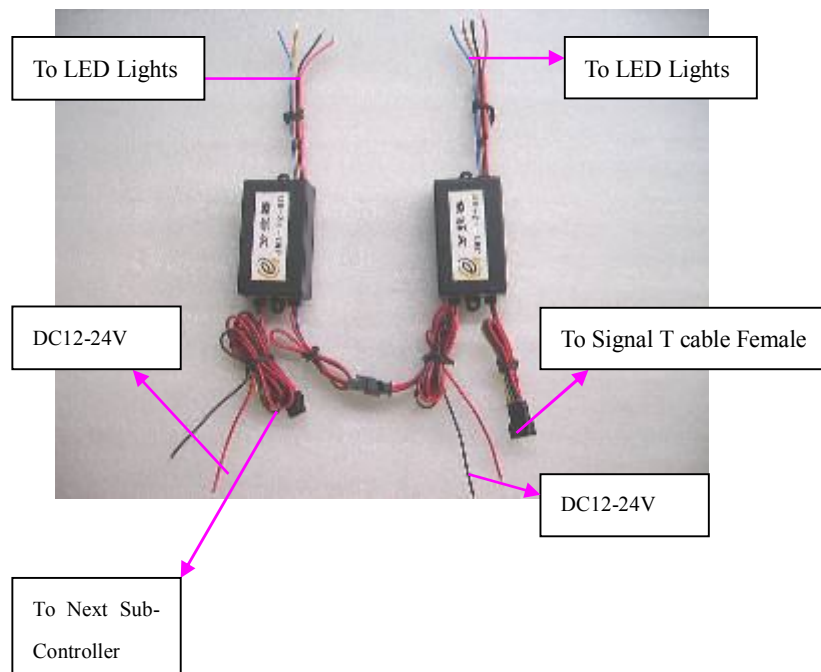

Figure 1
- 1、Connect one side of the signal T connector into the master controller; the other side of the signal T connector has red / black wires and female connector, the red / black wires connect to DC 12V switching power (main-controller power supply), the female connector connects to the male connector on JM1 single pixel sub-controller, see figure 1. Then connect the red / black wires on JM1 single pixel controller to DC switching power, and then connect the slave cables with light source by V+, R, G, B order. Connect the first slave female connector to the male connector on the second slave controller, see figure 2, and connect the second power with light source correctly, and so on. All slave controllers can be connected as above steps and align the light sources in order. Power on, several of JM1-12V slave controllers operate under the master controller programming. The master controller program can be edited and modified by Color Edit software, then downloaded by PC, see details in Color Edit software users' manual.